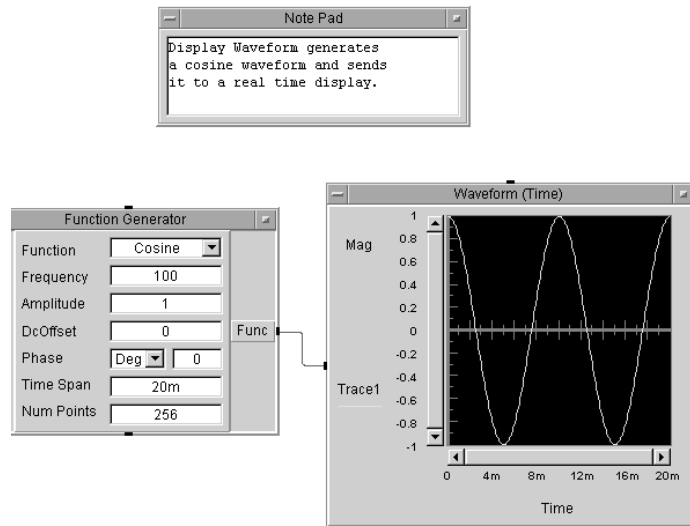

Figure 26 Running a Program
- Continuing with the same exercise, click the Run button on the toolbar to run the program, or use **Debug** ⇒ **Run**. The program displays a 100 Hz Cosine wave in the Waveform (Time) display as shown in Figure 26. (Your object might have a different frequency, which is not important to the example.)